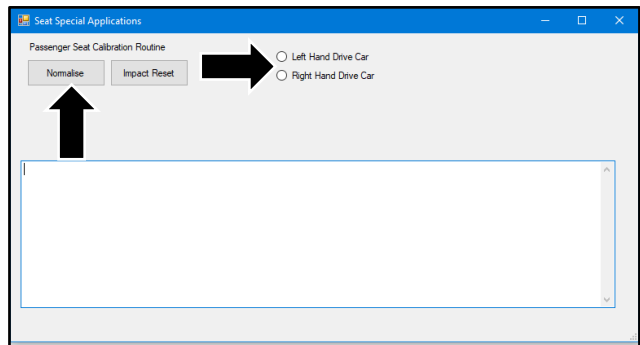

Figure 12
- Select the applicable hand of drive, then click “Normalise” (refer to Figure 12).